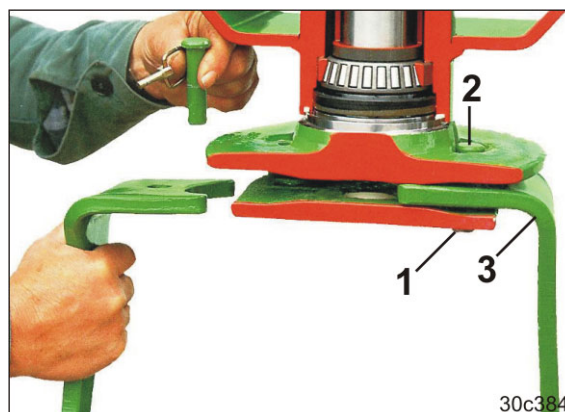

Fig. 124
3. Remove the linch pin (Fig. 124/1).
4. Remove the pin (Fig. 124/2) from the tool carrier by striking it in an upwards direction.
5. Replace the tool tines (Fig. 124/3).